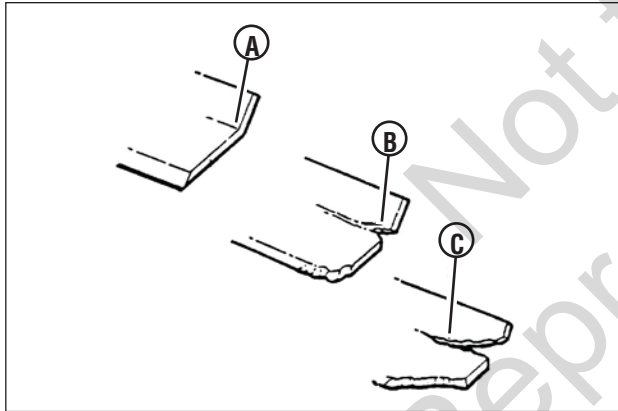

Figure 17: Standard blade wear limits
1. Inspect the blade (**Figure 17**) frequently for signs of excessive wear or damage:
- (A) New blade
- (B) Wear limit (notch starts)
- (C) Dangerous condition! Do not use on the mower! Replace with a new blade.